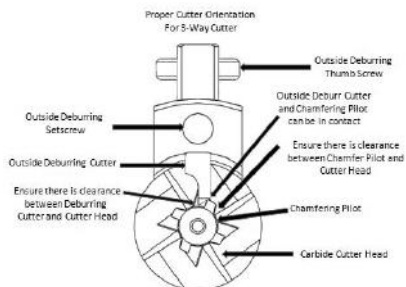

Figure 1
1. Insert Chamfering Pilot (F), 6-32 x 1/8 Setscrew (H) and 8-32 x 1/8 Setscrew (G) into the Carbide Cutter Head (J). The 6-32 x 3/8 Setscrew (H) is used to adjust the amount of inside case mouth chamfer. The 8-32 x 1/8 Setscrew (G) is used to secure the Chamfering Pilot (F). Use a sized and de-primed case, ready to be trimmed, and place the case mouth over the Chamfering Pilot (F).
2. Make appropriate adjustments to the 6-32 x 3/8 Setscrew (H) to allow the case to rest on the cutting flutes of the Carbide Cutter Head (J). Once set, remove case and apply downward pressure to the nose of the Chamfering Pilot (F). Secure the Chamfering Pilot (F) in place with the 8-32 x 1/8 Setscrew (G). Ensure cutter orientation is similar to that in Figure 1. Final adjustments will be discussed later.
3. Insert the assembled Carbide Cutter Head (J) into the 3-Way Cutter Holder (A), ensure the back of the cutter bottoms out against the 3-Way Cutter Holder (A) and orientation of cutter is similar to what is shown in figure 1. Secure the assembled Carbide Cutter Head (J) in place with the 8-32 x 1/8 Setscrew (I) and make sure the 8-32 x 1/8 Setscrew (G) is accessible, for adjustment, as shown in Photo 2.
4. Insert the Outside Deburring Cutter (C) into the 3-Way Cutter Holder (A). Use case from step one, place over the Chamfering
5. Lower the Outside Deburring Cutter (C) until it just makes contact with the case, by rotating Thumb Screw (B) clockwise, and tighten the Outside Deburring Cutter Setscrew (D) to secure Cutter in place. NOTE: the Outside Deburring Cutter (C), should just make contact with the case. Do not drive cutter into the case as this can cause damage to the cutter. Remember when you deburr a case all you want to do is remove any burrs from the case mouth. Final adjustments will be discussed later.
6. Ensure Cutter Orientation is similar to that in Figure 1.
3. To adjust the inside case mouth chamfer, remove the cutter from the trimmer, loosen the 8-32 x 1/8 Setscrew (G) while holding pressure on the end of the Chamfering Pilot (F) with your finger and adjust the 6-32 x 3/8 Setscrew (H), at the rear of the cutter, clockwise to increase the amount of chamfer and counter clockwise to decrease chamfer. NOTE: A 1/8th of a turn on the adjustment screw will change the chamfer depth by .004". Once set, retighten the 8-32 x 1/8 Setscrew (G).
4. To adjust amount of outside case mouth chamfer, the cutter can remain on the trimmer, loosen the Outside Deburring Cutter Setscrew (D) and rotate the Thumb Screw (B) clockwise to increase amount of chamfer and counter clockwise to reduce amount of deburr. NOTE: An 1/8th of a turn on the Thumbscrew will change the deburr depth by .002". Once cutter is set, retighten the Outside Deburring Cutter Setscrew (D).
6. Ensuring the cutter orientation is the same as what is shown in figure 1, will reduce the amount of brass chips that can build up around the Outside Deburring Cutter and the Chamfering Pilot Cutter.